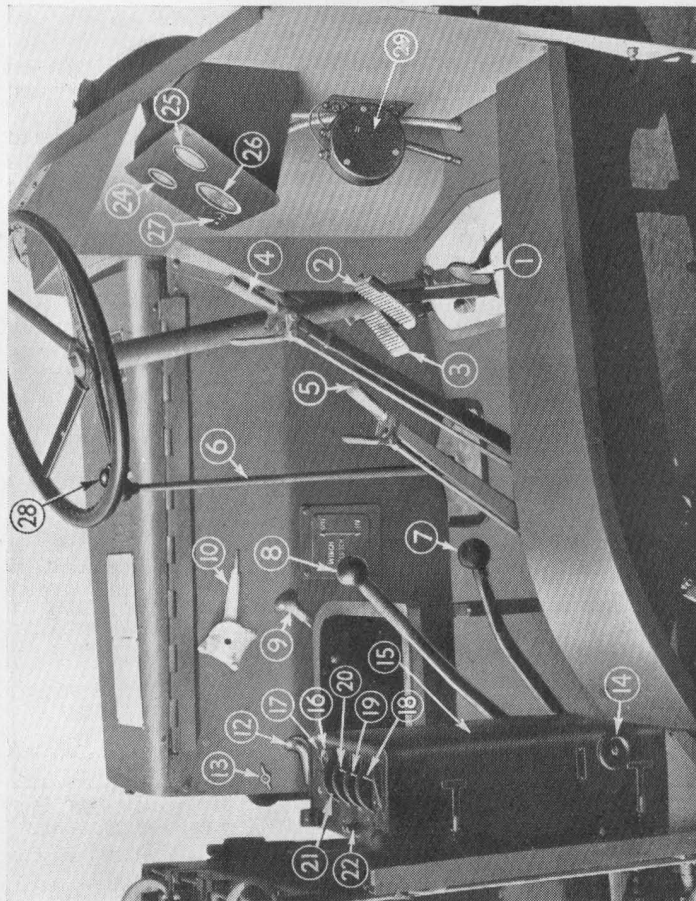

Fig. 2. Driver's Controls.
(The index numbers correspond to those in Fig. 2, unless otherwise stated).
15. Electrical Control Unit. (*Units of C.A.V. and Simms' manufacture are fitted, the controls of which are dissimilar. A C.A.V. unit is shown in Fig. 2, while Fig. 40 on page 58, shows a Simms' unit.*)
Although illustrated in Fig. 2, this controller is only fitted to the front dash on vehicles having air pressure braking. On other vehicles it is mounted in the chassis frame adjacent to the Servo Motor (*see Fig. 31*).
- (i) Close the battery cut-out switch (14), *Fig. 2.*
- (ii) Move the starting switch (21) to the " on " position.
- (iv) Press the starter button (16) firmly.